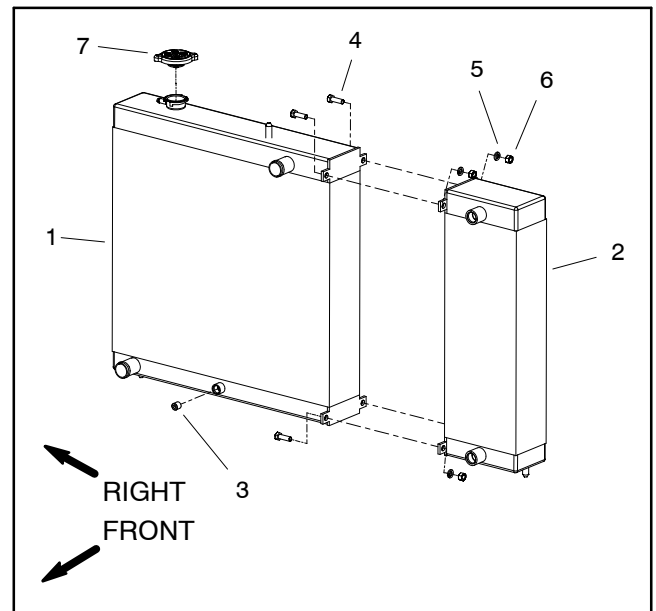

Figure 148
4. Separate oil cooler from radiator (Fig. 148).
2. Secure oil cooler to radiator (Fig. 148).